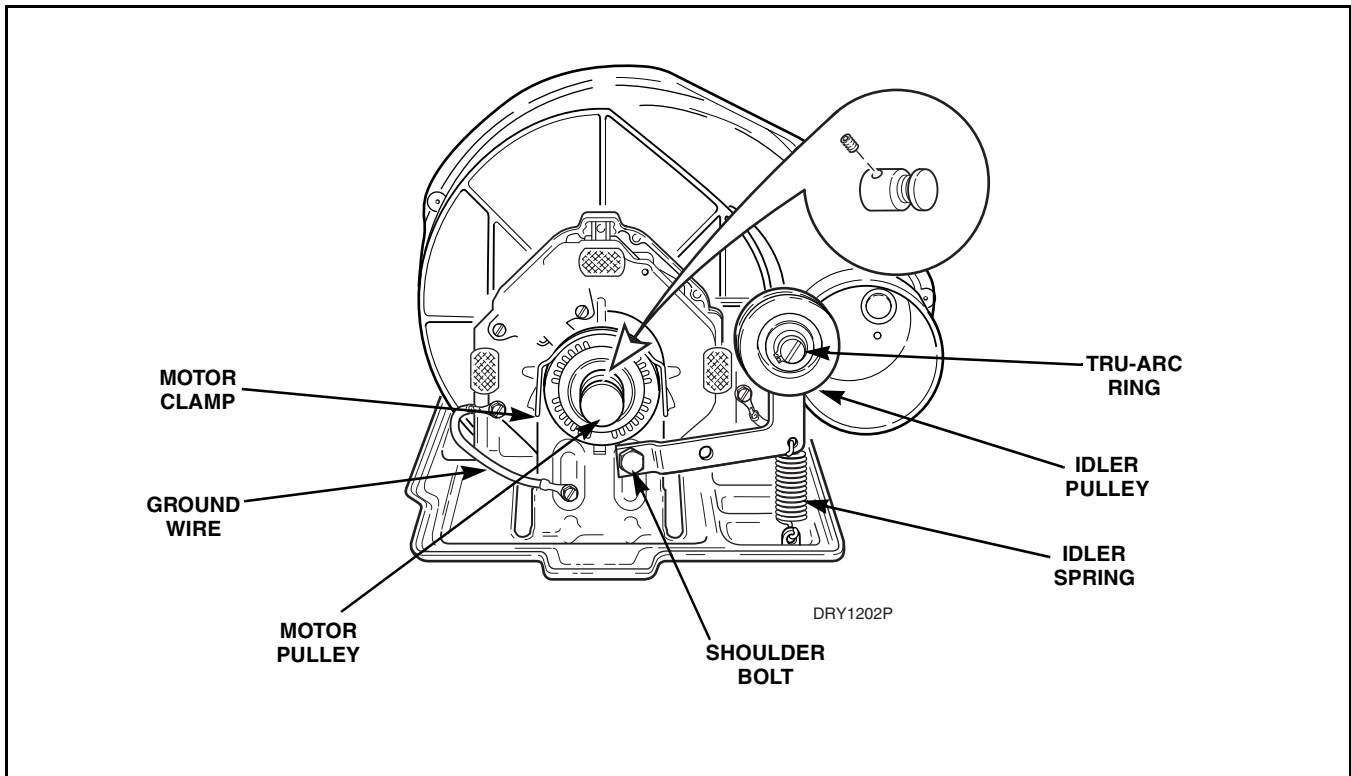

Figure 25
Refer to *Figure 25*
- d. **On older models without anti-rotate motor mounts**, when replacing motor, switch location should be at 10 o'clock looking from back of motor when placing motor in bracket. Refer to *Figure 25.*
- Refer to *Figure 25* for motor and idler pulley removal.